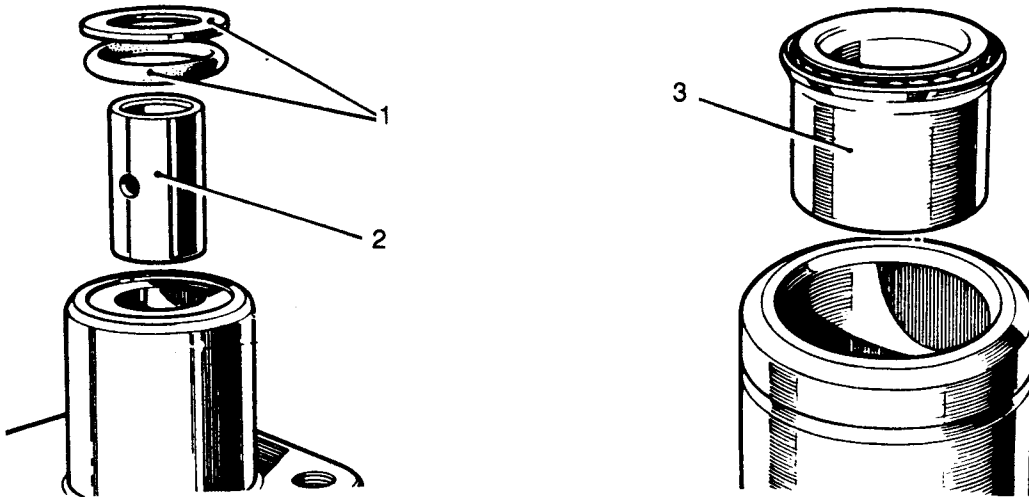

Fig L5.5
- (1) Refer to Fig L5.5. If it has been removed, replace the outer column top bearing (3).
- (2) If necessary, refit the rocker shaft bush (2). Use a press if required.
- (3) Replace the retaining washer and oil seal (1).